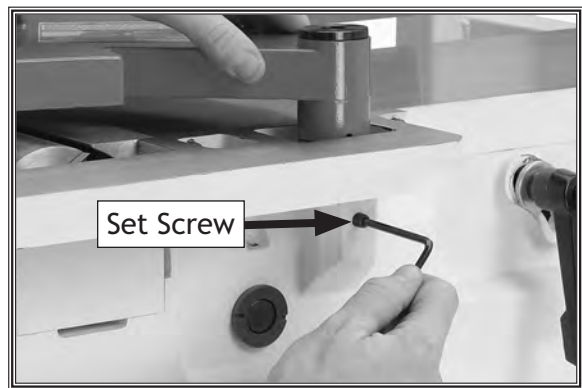

Figure 22. Securing the cutterhead guard.
27. Insert the cutterhead guard shaft into the hole at the front of the infeed table, making sure that the flat part of the shaft faces the set screw shown in Figure 22.
28. Tighten the set screw against the shaft (see Figure 22) to secure the cutterhead guard in place.